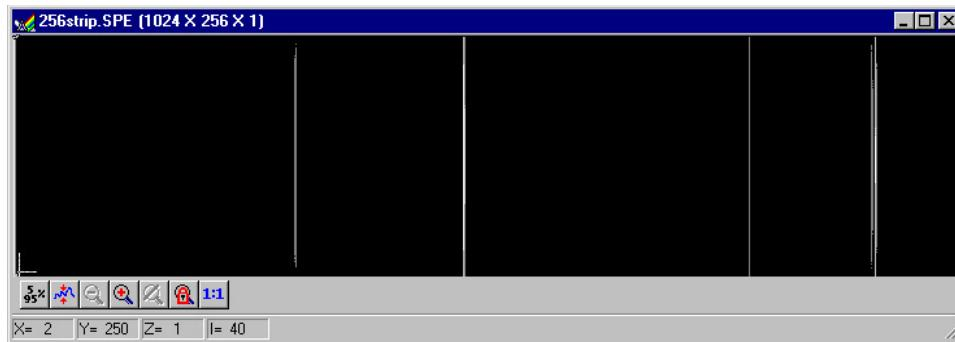

Figure 72. Image display of 256 data strips
- If there are eleven or more strips of data, they will be displayed as a normal image, such as that shown in Figure 72.